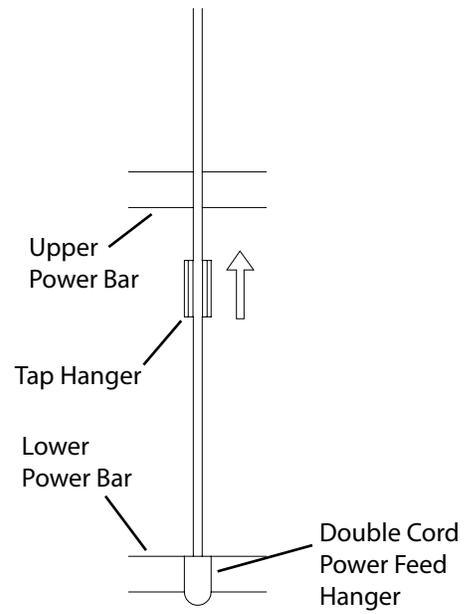
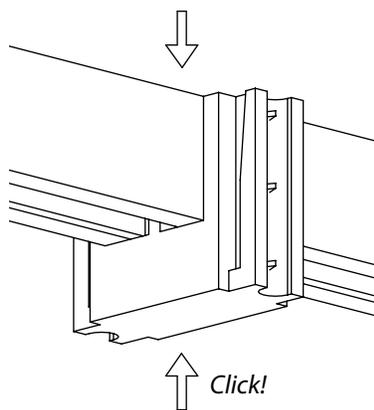

Fig. 18
Fig. 19
4. Position **Tap Hanger** under **Upper Power Bar** at junction with **Double Cord Power Feed Hanger** (Fig. 18). Press down firmly on top of the Upper Power Bar, while pressing up on the bottom of Tap Hanger, until Tap Hanger clicks into place (Fig. 19).